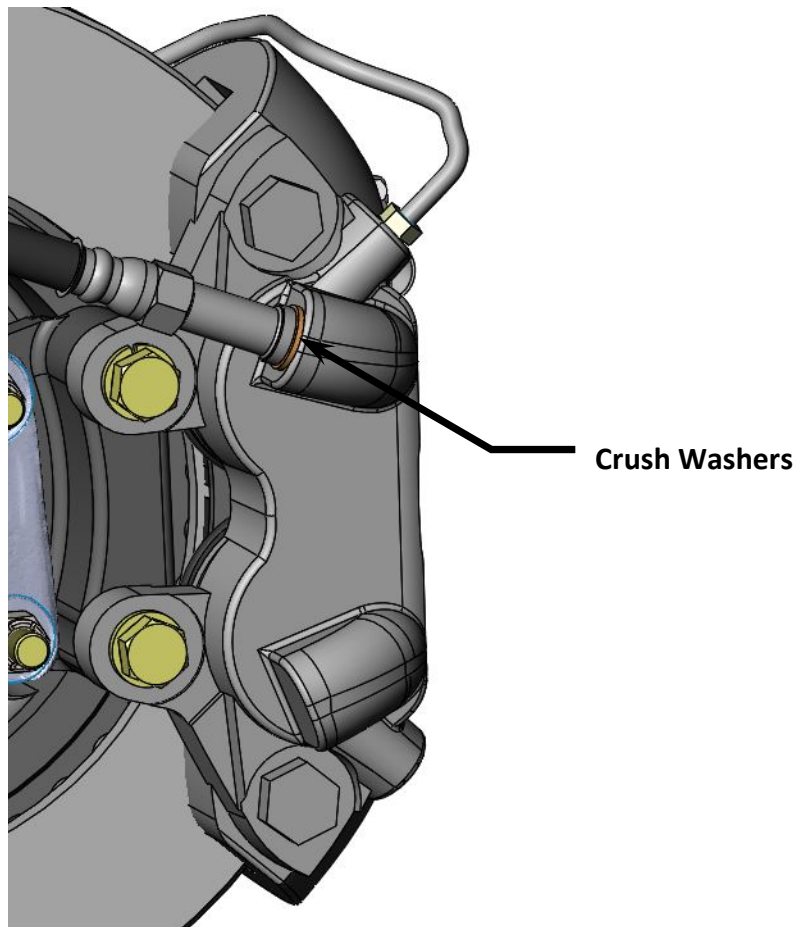

Figure 7 – Brake Hose Installed
10. Install the brake hoses onto the caliper and attach to the original plumbing on the vehicle. **NOTE:** Be sure the copper crush washer has been installed on the brake hose to prevent leaks before installing. Figure 7 below shows the installed brake hose at the caliper.